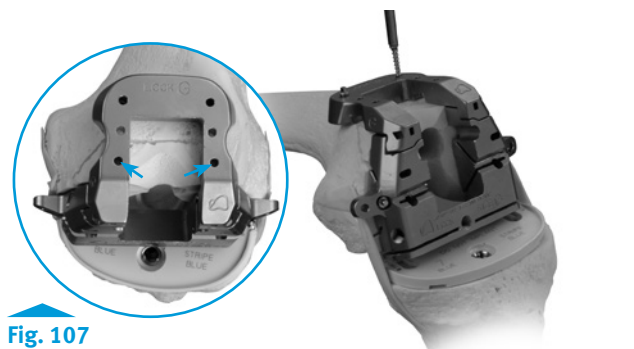

Fig. 107
- Insert two 33mm Hex-head Screws through the top of the notch guide (Fig. 107).
- The first set of holes on the notch guide should not be used if any augmentation is used on the 4-in-1 Femoral Cutting Block (Fig. 107).